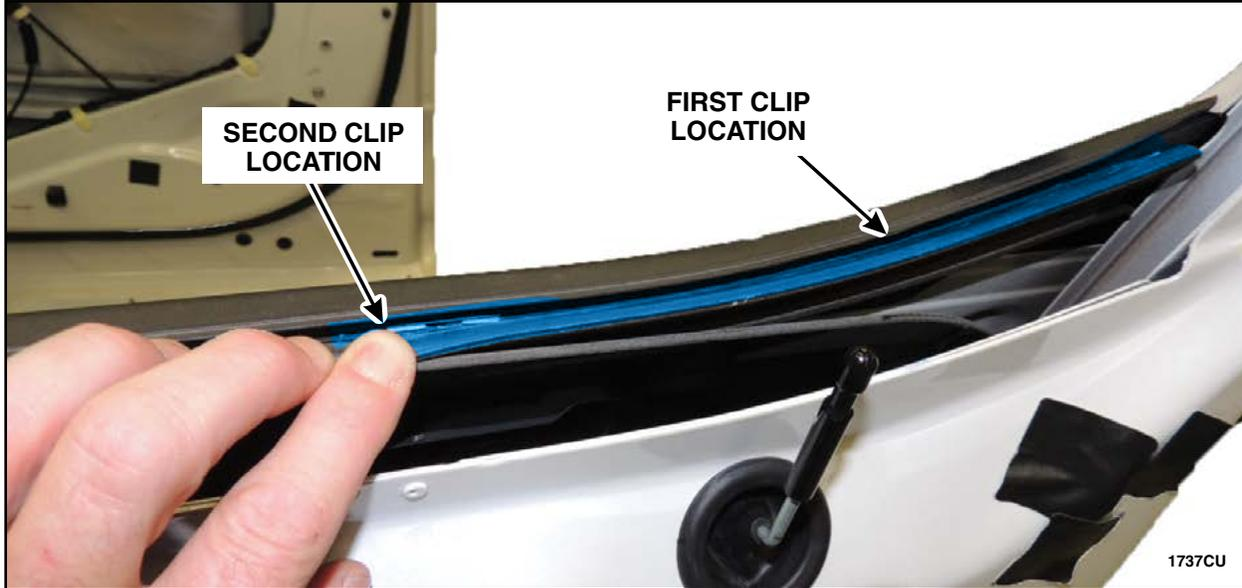

FIGURE 41
12. Using a clean towel and isopropyl alcohol, clean the area of the outer belt moulding shown in Figure 41. This is where the foam and silicone will be applied. See Figure 41.